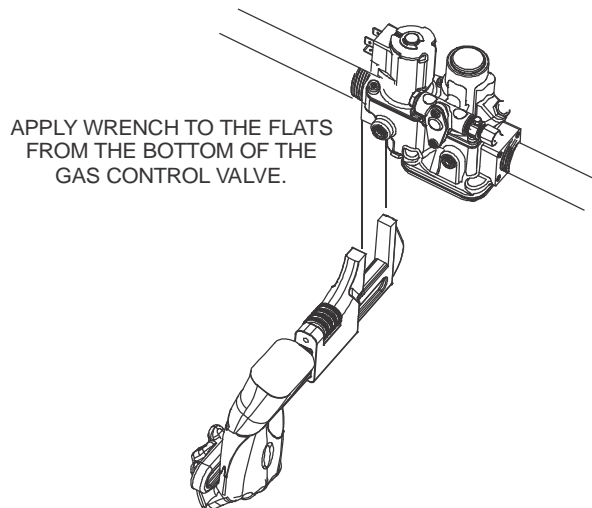

Figure 3: Proper Use of Wrench on Gas Control
- Connect pipe to gas control inlet and outlet. Use a wrench on the square ends of the control. If a flange is used, place the wrench on the flange rather than on the control. This process should be used for both the installation and removal of the valve in a gas system. (see Figure 3).